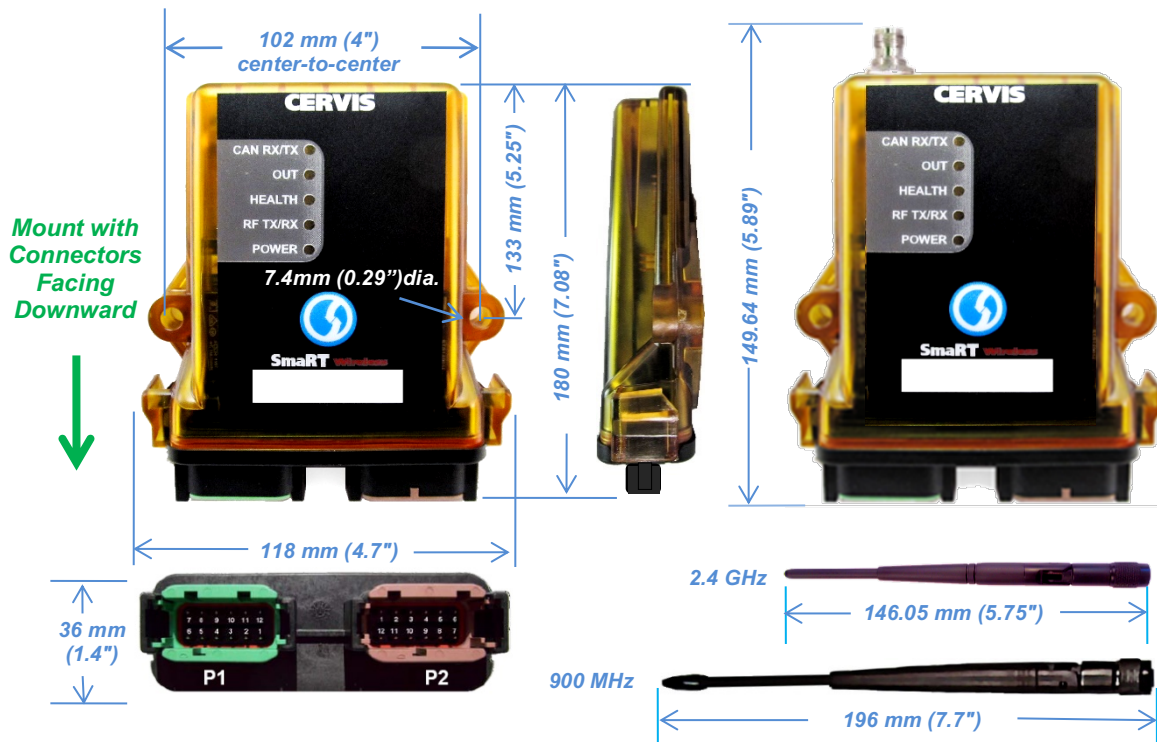

Figure 3. Mounting Holes and Cable Connectors P1 and P2
- Mount so that the connectors are positioned down (see Figure 3).